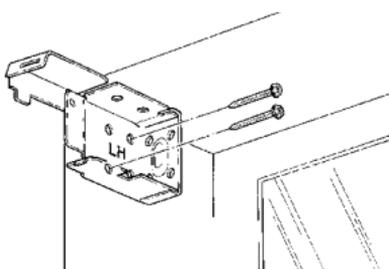

Figure B3
5. Mount the bracket using two of the screws provided. (See Figure B3)